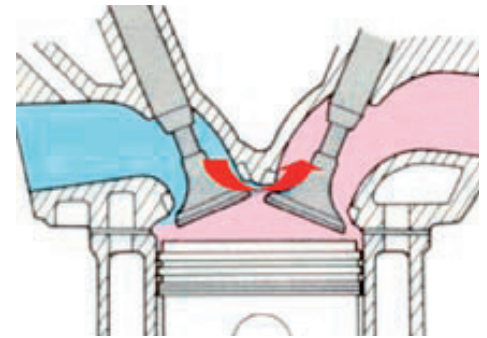

Figure 5 Blow-by of the air-fuel mixture, red arrow, occurs when both the intake and exhaust valves are open
- raw blow-by of gas caused by overlapping of intake and exhaust valve timing (figure 5).